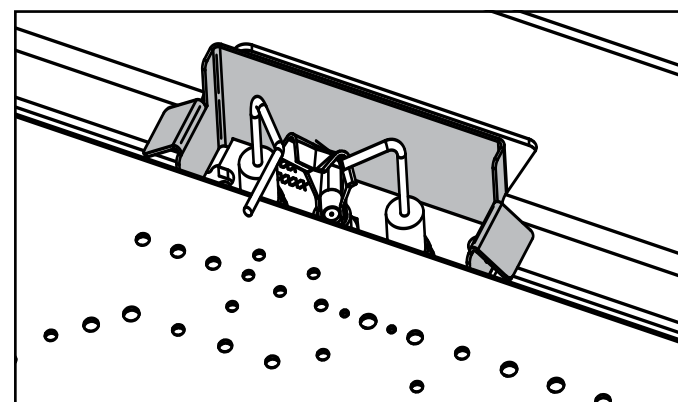

Figure 9.6 Pilot Shield Installed
5. Bend the side tabs downward to an angle greater than 90 degrees to secure it into position as shown in Figure 9.6.